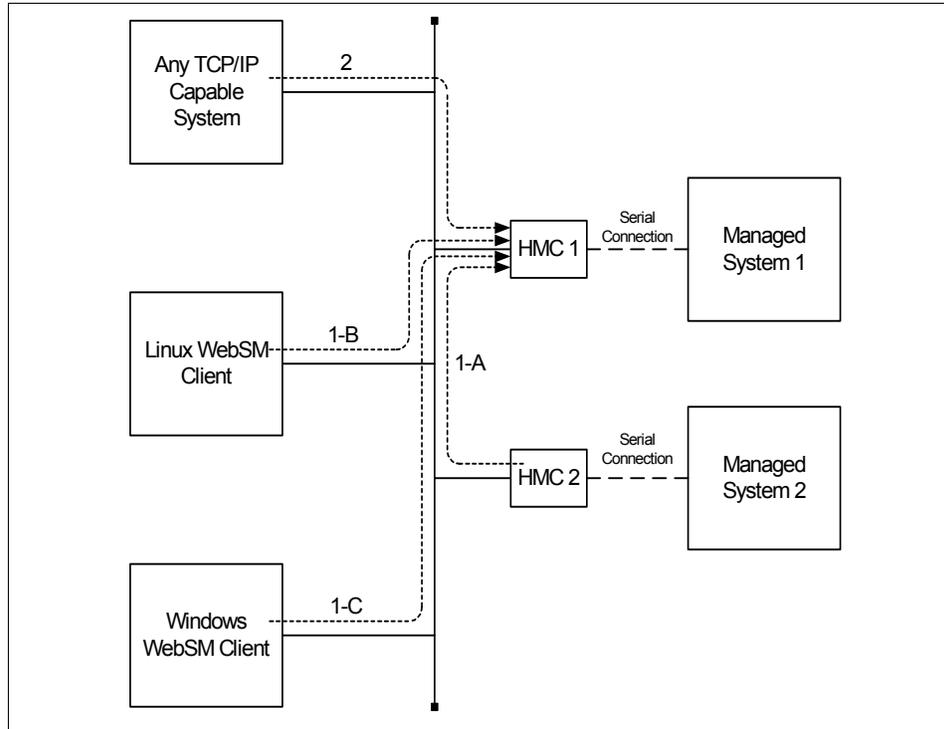

Figure 1-11 Remote connectivity option
Depending on what communication method or protocols are used, there are several options in the remote connectivity of HMC, as illustrated in Figure 1-11 on page 22. In this figure, we assume the following points:
- ▶ We exclude the possible connection to the AIX systems managed by Web-based System Manager from the HMC to avoid complexity in Figure 1-11 on page 22. You can also manage these AIX systems from the HMC, even if the AIX system is running in a partition.
- ▶ We assume that the HMC1 shown in Figure 1-11 on page 22 is a *server*; all connections are made to HMC1 from the other systems, and some operations are executed on it, such as configuring a partition or powering on the managed system.
Figure 1-11 shows two categories of remote connectivity options explained in the following sections: remote access to the HMC graphical user interface, as shown by 1-A, 1-B, and 1-C (using the dotted line), and the remote execution of command line function, as shown by 2 (using the dotted line).
The HMC provides a set of commands in order to be used for many management tasks; however, those commands are only accessible from the remote system, not from the HMC local console. This remote connectivity option is shown as 2 in Figure 1-11 on page 22, and any TCP/IP-capable system that supports **rexec** or **ssh** can use the remote execution of command line functions.